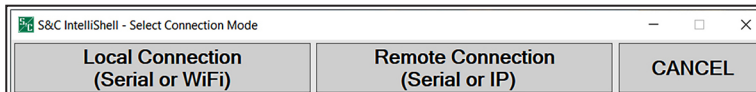

Figure 17. The IntelliShell - Select Connection Mode dialog box.
STEP 1. Open the IntelliLink application and select the appropriate connection type (i.e., Local or Remote). See Figure 17.